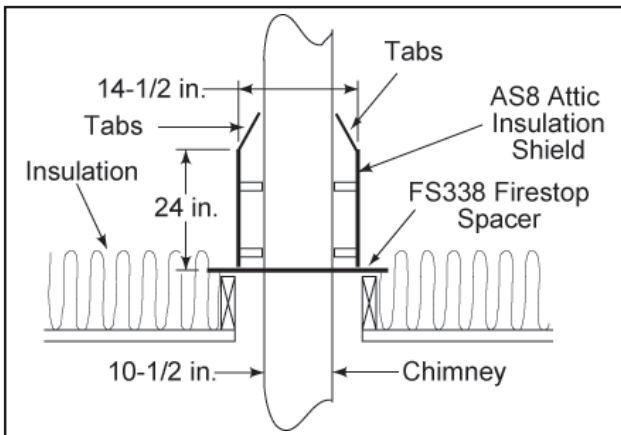

Figure 12 - Installing an Attic Insulation Shield
- Slide the shield down until it rests on the firestop spacer. The firestop spacer will support the insulation shield. See Figure 12.